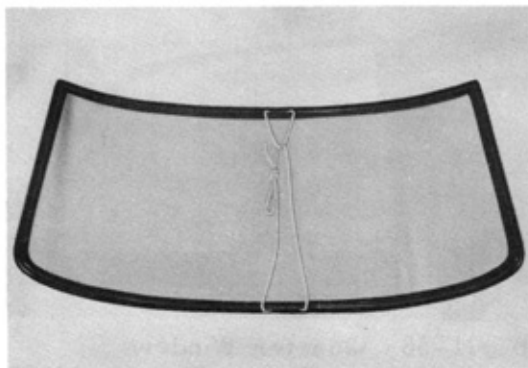

Fig.1-60 Cord Installation V0928
2. Insert the cord around the windshield weatherstrip. The cord should overlap at the center portion of the glass as illustrated in the figure 1-60.